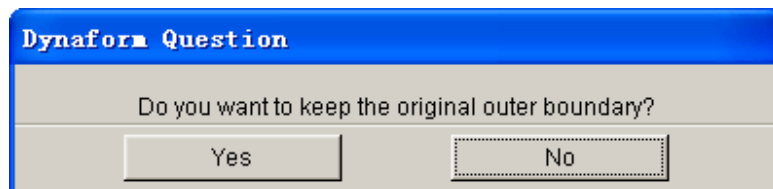

Figure 5.2.6 DYNAFORM Question window
5. After the curve is defined or selected, select EXIT. The window, Figure 5.2.6, appears.